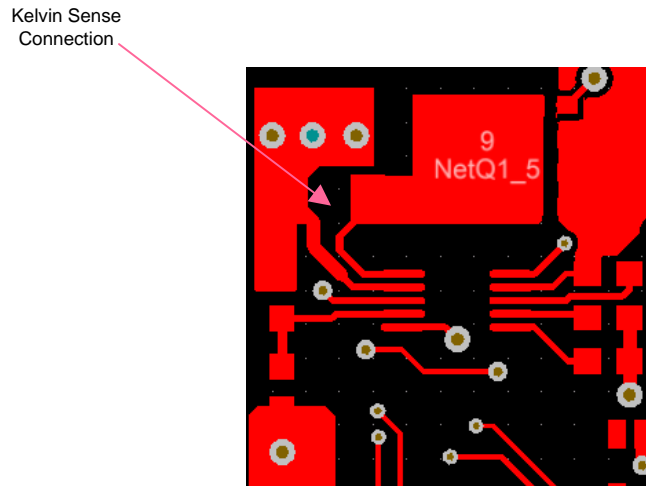

Figure 3. Kelvin Sense Connection for Sense Resistor
**NOTE:** Current sense resistor (R17) must be placed close to LM5069. Connections from R17 to the LM5069 should be made using the Kelvin technique. See Figure 3.